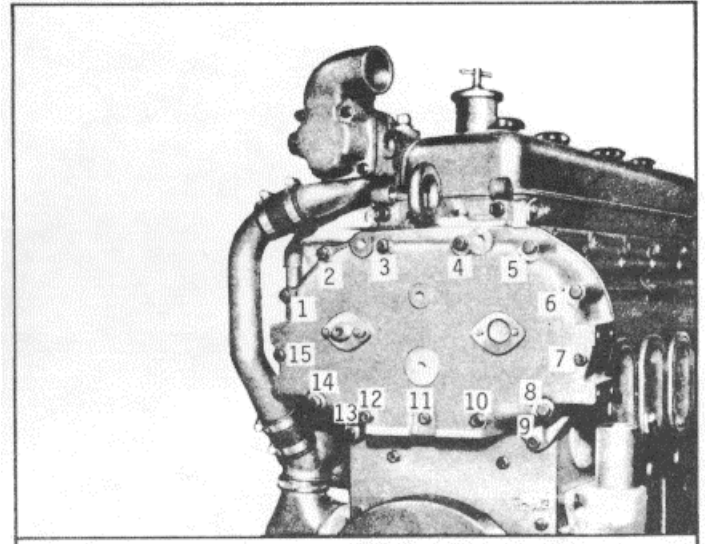

Fig. 2 Balance Weight Cover Bolt Tightening Sequence
- (1) Check the clearance (Fig. 2) between the drive support and gear hub thrust washer before installing the blower drive gear support assembly. The clearance must be .006" to .014".
- (1) Affix a new gasket to the balance weight cover.
- (2) Install the cover in place and install the fifteen attaching bolts, lockwashers and plain washers finger tight.
- (3) Refer to Fig. 2 and tighten the bolts to 25-30 ft-lbs (34-41 Nm) torque.
- (4) Install the various sub-assemblies that were previously removed.